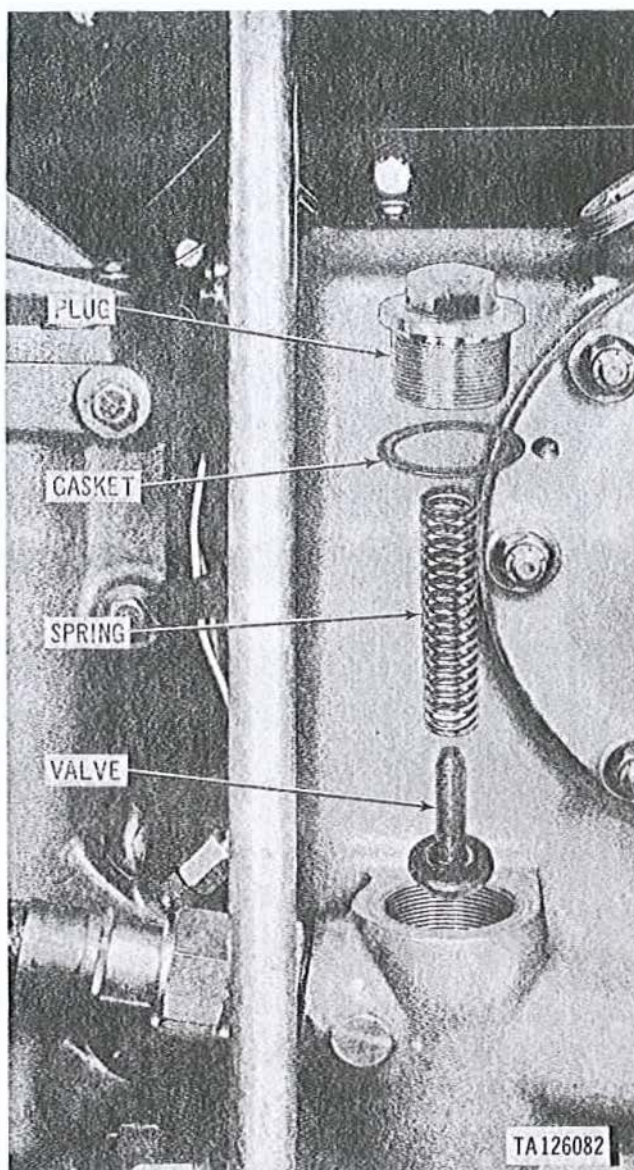

Figure 2-110. Removing or installing oil cooler bypass valve.
(1) Remove oil cooler bypass plug (fig. 2-110). Remove and discard gasket.
(2) Remove bypass valve spring and bypass valve.
- (1) Install bypass valve (fig. 2-110). Position